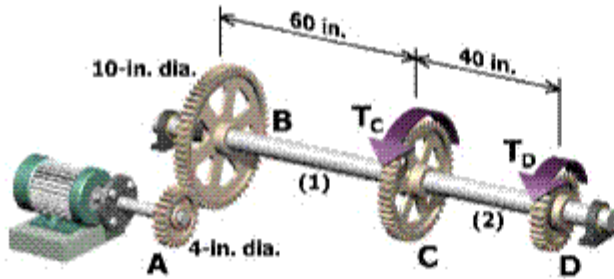

Fig. P6-30/31
6.30 In the gear system shown in Fig. P6-30, the motor applies a 160 lb-ft torque to the gear at *A*. A torque of $T_C = 250$ lb-ft is removed from the shaft at gear *C*, and the remaining torque is removed at gear *D*. Segments (1) and (2) are solid 1.5-in.-diameter steel [$G = 12,000$ ksi] shafts, and the bearings shown allow free rotation of the shaft.
- (a) Determine the shear stress in segments (1) and (2) of the shaft.